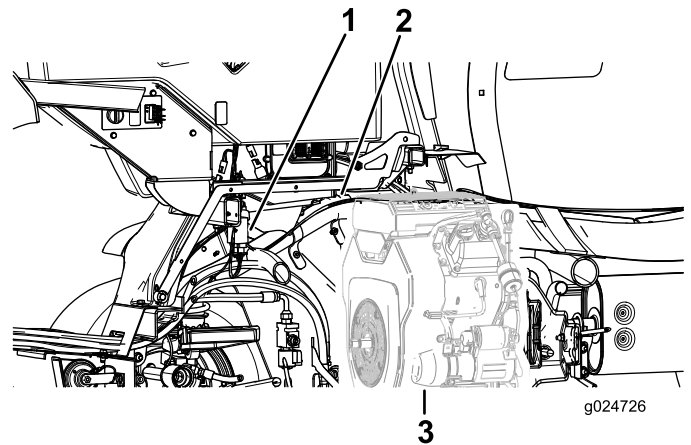

Figure 35
- 1. Route the tail light leg of the wire harness from the flasher module rearward along the right-frame tube between the frame tube and the engine (Figure 35).